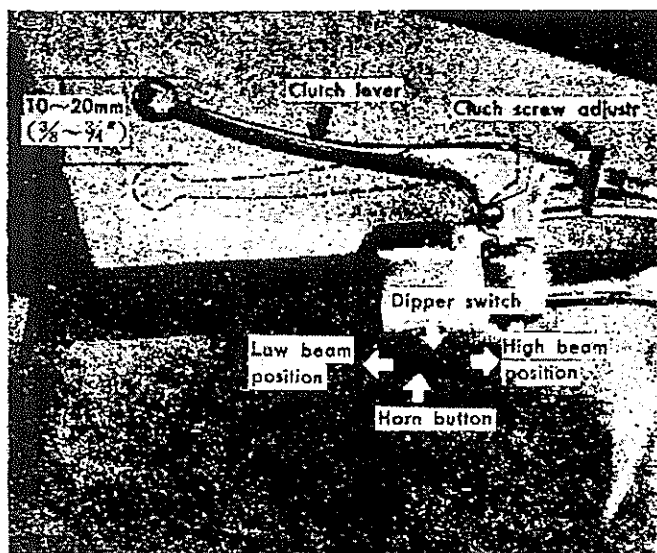

Fig. 15
1. When properly adjusted, there will be approximately 10-20 mm ($3/8''$ - $3/4''$) free play in the clutch control before the clutch disengages (Fig. 15).
2. a) The play in the clutch lever may be adjusted while running with the screw adjuster on the lever. (Fig. 15).